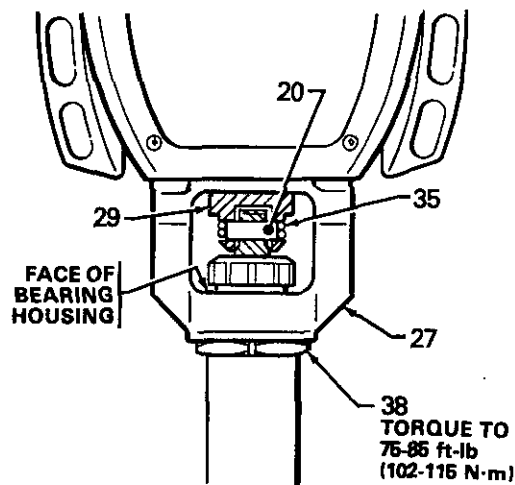

Fig 24
75-85 ft-lb (102-115 N·m)—with a 2 in. open end wrench and a light hammer. See Fig 24.
Be sure the retaining spring (35) is firmly in the groove of the connecting rod, *all the way around*, to prevent the pin (20) from working loose due to vibration. See Fig 24.